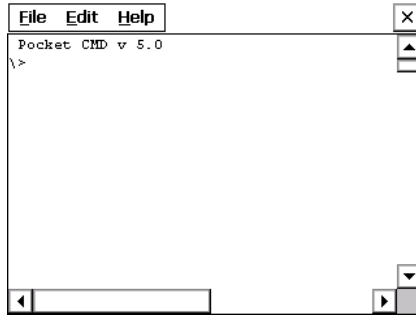

Figure 2-10. Command Prompt Window
1. Tap **Start ▶ Programs ▶ Tools ▶ Command Prompt**. The *Command Prompt* window displays (Figure 2-10).